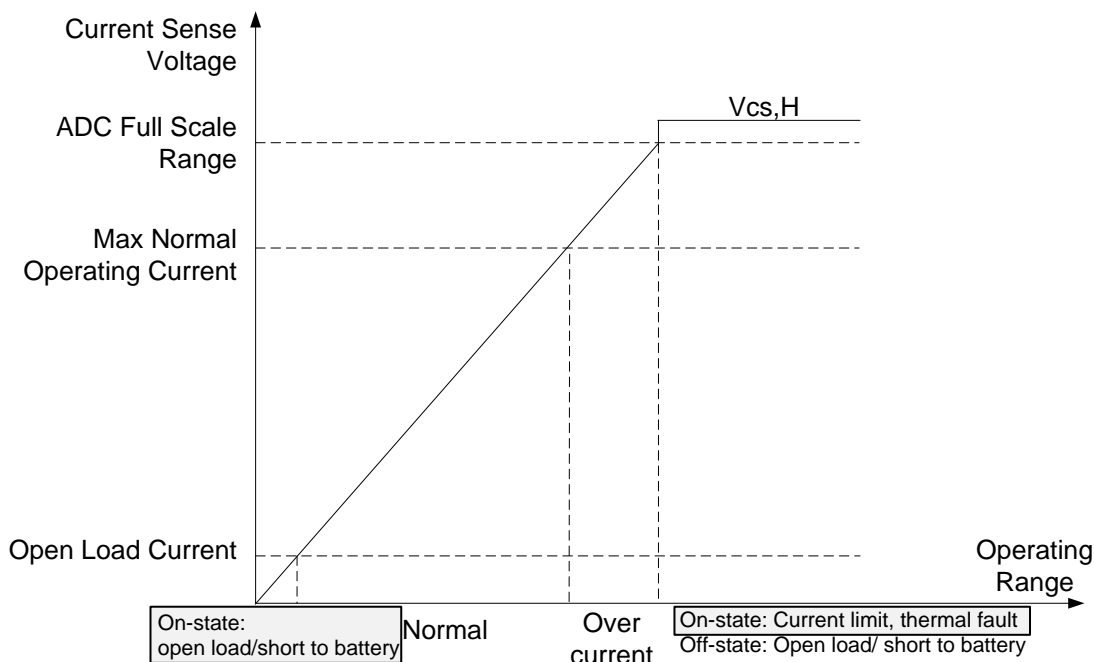

Figure 46. Step 1: Distinguish Short to GND in On-State
1. In the on state, for current sense version device (version B), on-state open load/ short to battery are recognized as an extremely-low voltage level in current sense pin, while short to GND is reported as a pulled-up voltage $V_{CS,h}$. Therefore, the user can find a short to GND (see Figure 46).